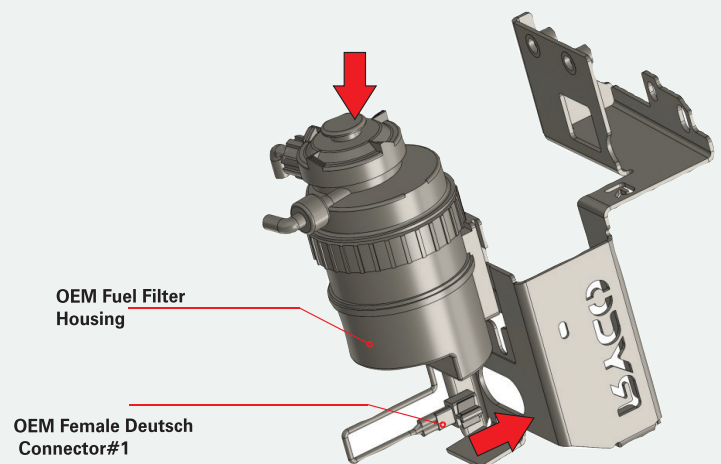

FIGURE 5A
- 11 Install the OEM Fuel Filter Housing by first passing the female OEM Deutsch connector #1 through the opening as shown in FIG.5A. Then mount the OEM fuel filter housing on to its mounting slot as shown in FIG.5A.